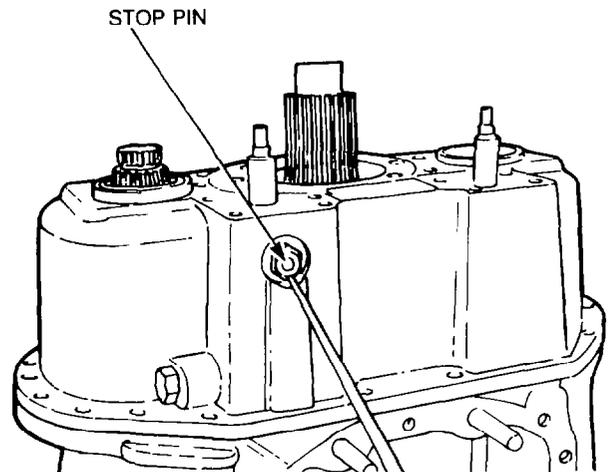

Figure 162 — Selector Fork Stop Pin Location
- k. Remove the selector fork stop pin (see Fig. 162) from the rear housing, then remove the bolts securing the rear housing to the front housing.